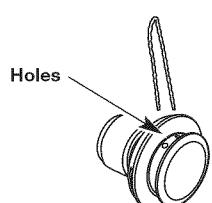

Fig. 15
- Insert both ends of your line through the proper holes in the side of the cutting head (Fig. 15).